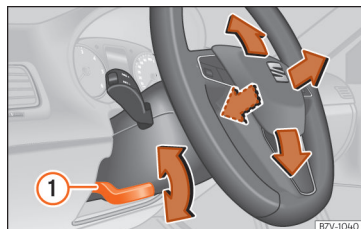

Fig. 5 Lever in the lower left side of the steering column.
- Pull the »» Fig. 5 ① lever down, move the steering wheel to the desired position and lift the lever back up until it locks.
- After adjusting the steering column, push the lever »» Fig. 5 ① firmly upwards to ensure the steering wheel does not accidentally change position while driving.